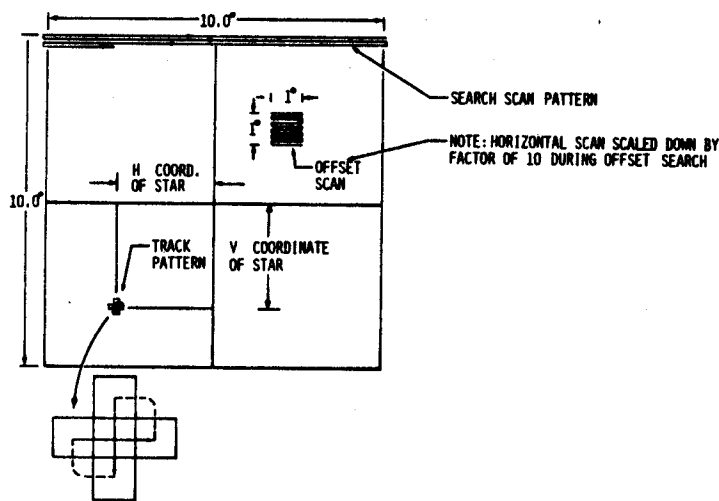

Figure 4-3. Scan Geometry
1. Full field scan. This is the normal operating mode and the one that will be entered when power is applied to the subsystem, provided no other mode is selected. In this mode the Star Tracker searches a $10^{\circ} \times 10^{\circ}$ field of view and acquires and tracks the first object that exceeds the threshold level (see figure 4-3).
3. Track scan mode. When the Star Tracker locates an object exceeding the threshold level, the vertical and horizontal scan is switched to a cruciform pattern centered on the object (see figure 4-3). The intensity of the object is monitored and the position of the cruciform pattern is altered to keep the pattern centered on the point of highest intensity. Tracking will continue as the object moves across the field of view at up to $.2^{\circ}$ /second with guaranteed accuracy and up to $.5^{\circ}$ /second at reduced accuracy.